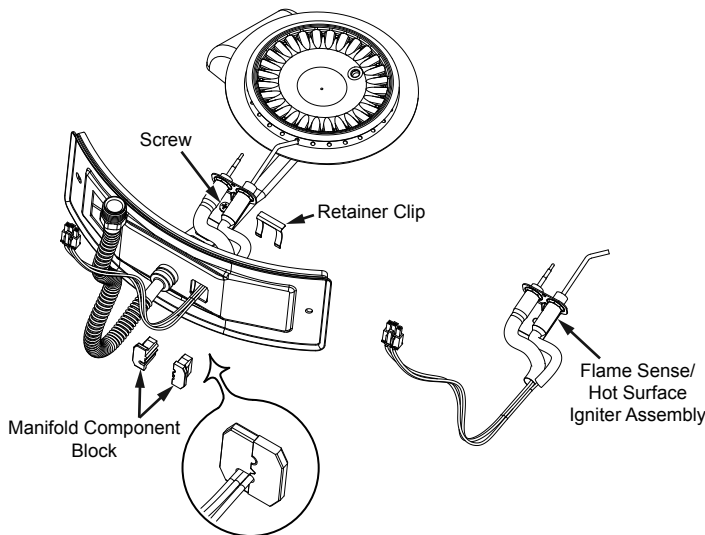

FIGURE 26.
2. Lift the retainer clip straight up from the back of the manifold component block (using a flat-blade screwdriver), then remove the manifold component block from the manifold door (Figure 26.)
3. Remove and keep the screw securing the flame sense/hot surface igniter assembly (Figure 26)
5. Route the new flame sense/hot surface igniter connector wire through manifold/burner door opening as shown in figure 26. Secure assembly to bracket using screw removed earlier.